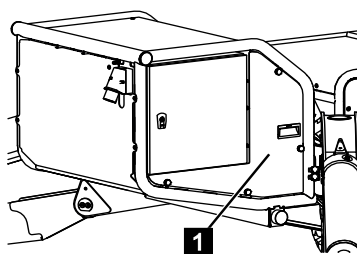

Fig. 181
2. Unscrew the cover (Fig.181/1).